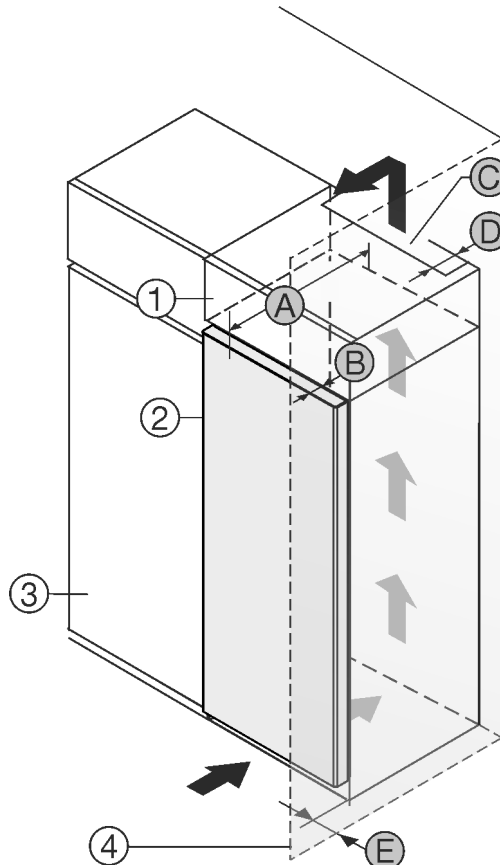

Fig. 1
- (1) Top cupboard *
- (2) Appliance *
- (3) Kitchen cabinet *
- (4) Wall *
- (A) Appliance depth *
- (B) Door depth *
- (C) Ventilation cross section *
- (D) Distance to the back of the appliance *
- (E) Distance to the side of the appliance *
You can place the appliance directly beside the kitchen cabinet Fig. 1 (3).*
There must be a ventilation shaft at the depth Fig. 1 (D) of the back of the top cupboard over the entire width of the top cupboard.*
The ventilation cross-section Fig. 1 (C) must be maintained under the ceiling.*
If the appliance is set up with the hinges next to a wall Fig. 1 (4), the distance between the appliance and the wall must be at least 13 mm.*
If the appliance is set up with the hinges next to a wall Fig. 1 (4), the distance between the appliance and the wall must be at least 20 mm.*
In order to be able to fully open the door, the appliance must protrude by the depth of the door *Fig. 1 (B)* from the front of the kitchen cabinet. The appliance may protrude further depending on the depth of the kitchen cabinets *Fig. 1 (3)* and whether wall spacers are used.*